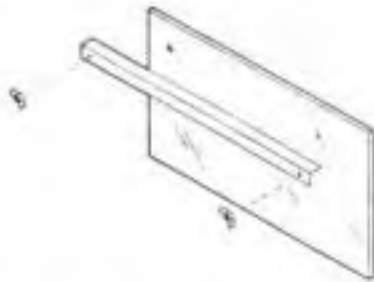

Figure 20
Step 13: Open the two brass screen panels and remove the glass from the appliance by removing the two (2) wing nuts and upper retaining bracket (Figure 20). Hold glass in place while removing retaining bracket.
1. Open both screen panels and remove upper retaining bracket and glass pane as outlined in Step 13 on page 6 (Figure 20 and 36).